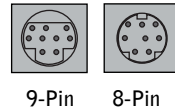

Figure 3. Mini-DIN connectors
1. Connect the 9-pin end of the mini-DIN cable to the 9-pin connector on the VTC AccuMic (see Figures 3 and 4).